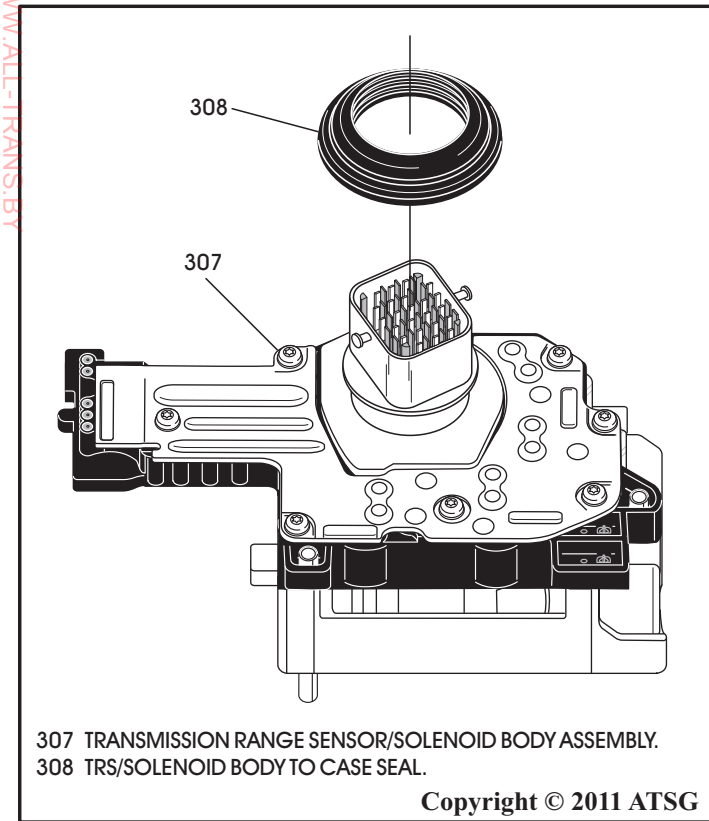

Figure 131
22. Install new TRS/Solenoid Body to transmission case seal over and onto the solenoid connector, as shown in Figure 131.